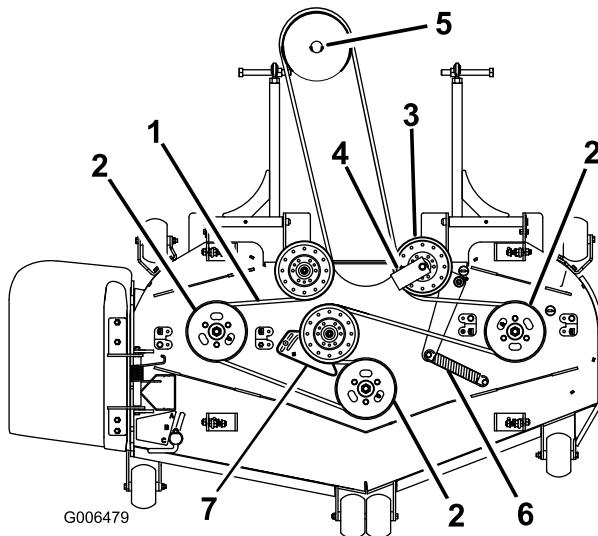
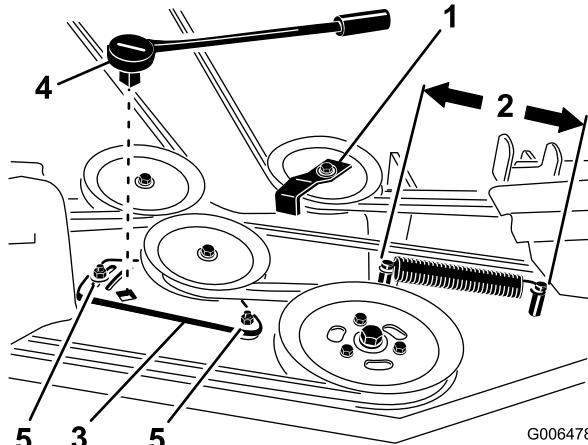

Figure 64
Figure 66
8. Install the new belt around the mower pulleys and the gearbox pulley under the engine (Figure 64).
9. Install the belt guide on the spring loaded idler at a 45 degree angle as shown in Figure 64 and Figure 66. Torque the bolt to 27 to 33 ft-lb (37 to 45 N-m).
10. Install the idler spring to the two posts (Figure 64 and Figure 66).
4. For 72 inch mowers, loosen the idler plate bolts holding the idler plate (Figure 66).
6. Remove the belt guide on the spring loaded idler pulley shown in Figure 64 and Figure 66.
4. Measure the spring length (Figure 66). If the spring length is between 10 and 10-1/4 inches (25.4 and 26.0 cm), from post to post, no adjustment is needed.
5. Loosen the bolts holding the idler plate (Figure 66).
6. Insert a ratchet or breaker bar into the square hole in the idler plate to adjust the tension (Figure 66).
7. Rotate the ratchet or breaker bar to move the idler plate until the idler spring is between 10 and 10-1/4 inches (25.4 and 26.0 cm) from post to post as shown in Figure 66.
8. While holding the belt tension and spring length, tighten the idler plate bolts that secure the idler plate (Figure 66).